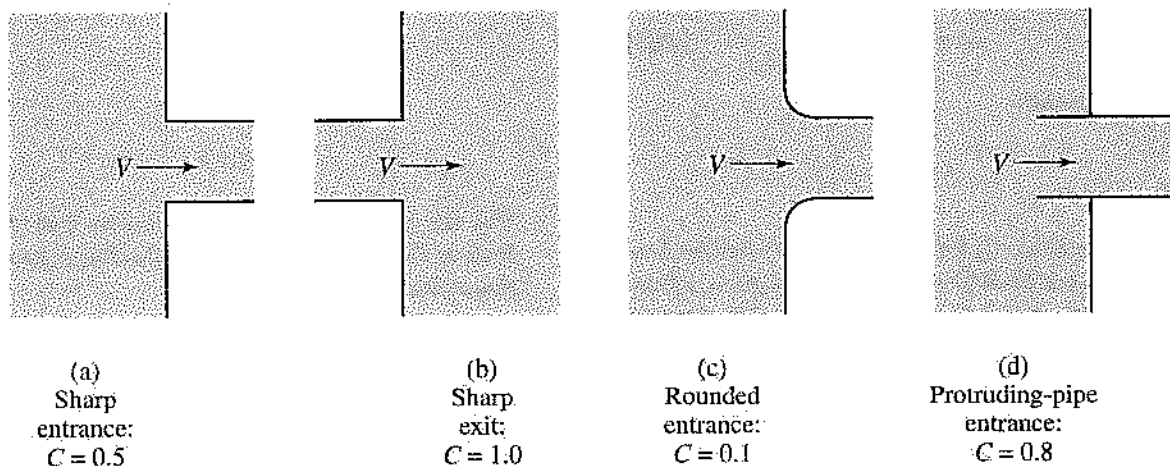

Figure 7.13 Loss coefficients for several types of pipe entrances and exits.
The loss coefficient (C) is determined by the geometry of the change and can vary greatly. A table is commonly used to determine the loss coefficient; Figure 7.13 gives the loss coefficients for some types of entrances and exits.